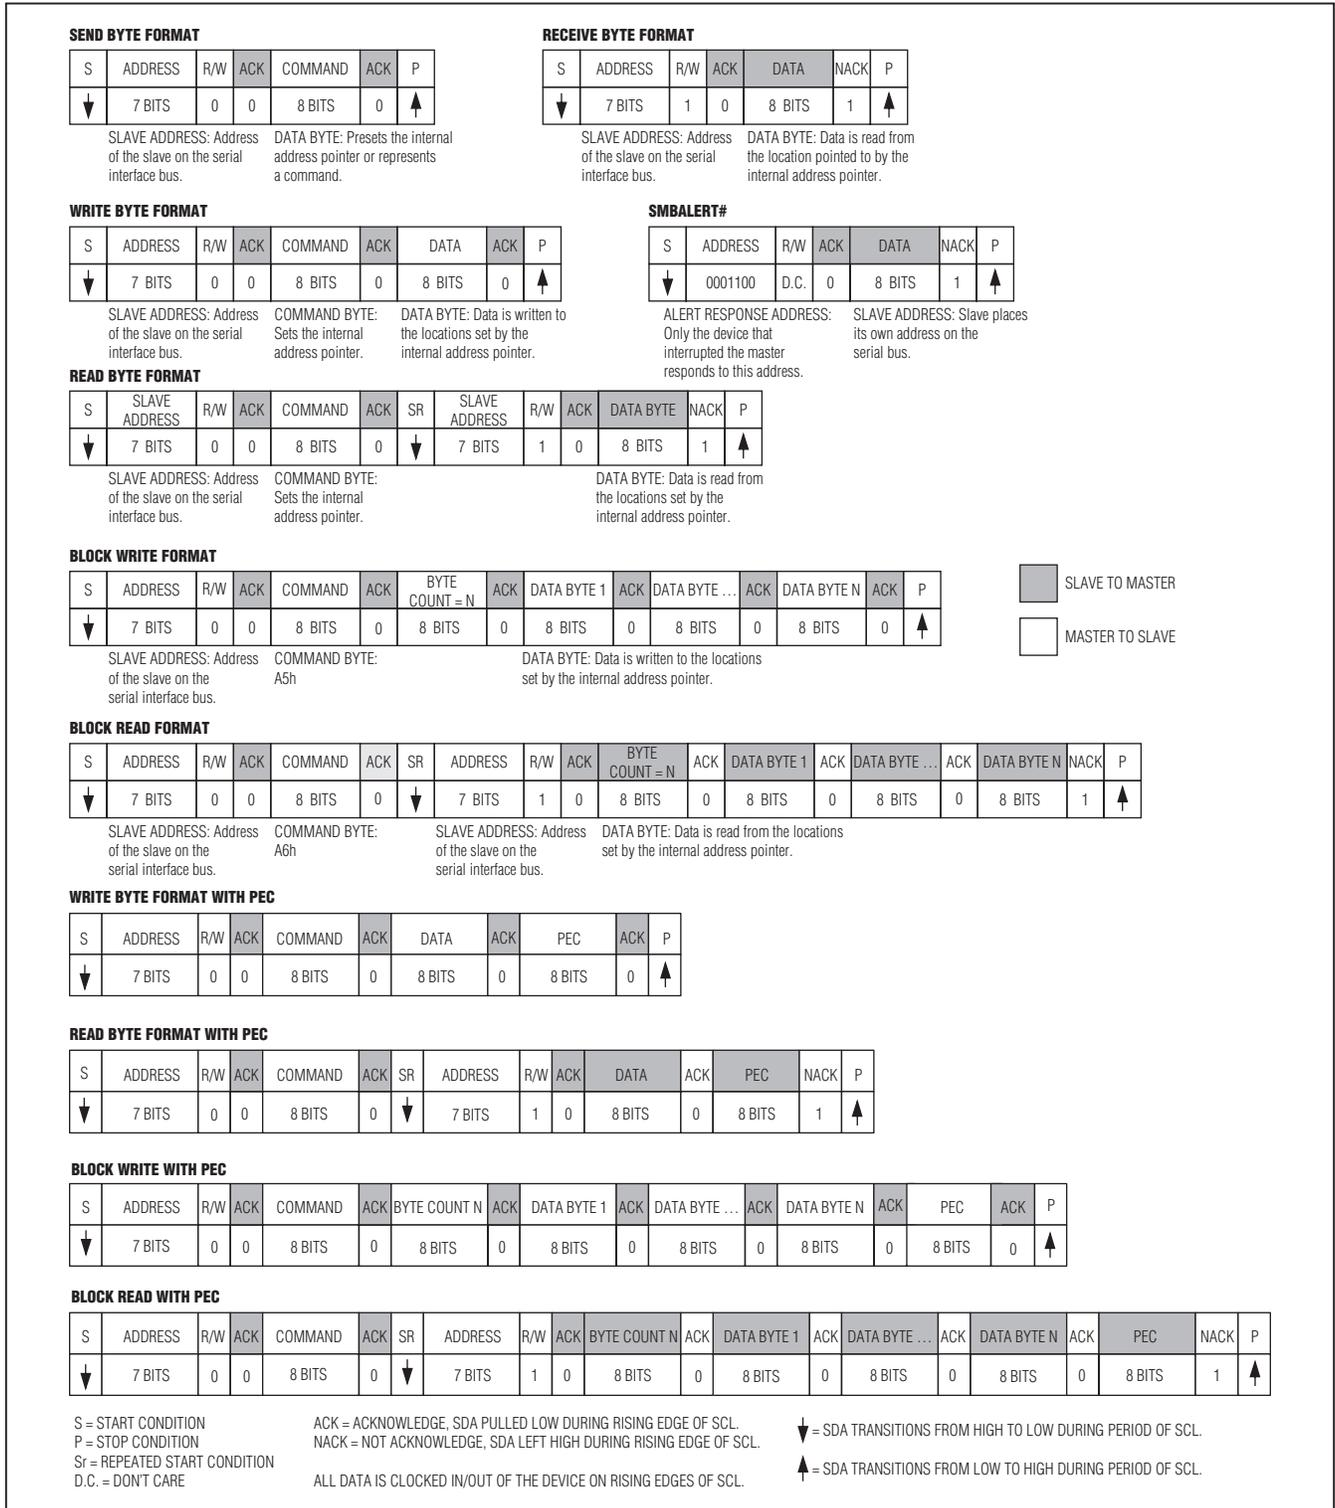

Figure 9. SMBus Protocols
The send byte protocol allows the master device to send one byte of data to the slave device (see Figure 9). The send byte presets a register pointer address for a subsequent read or write. The slave sends a NACK instead of an ACK if the master tries to send a memory address or command code that is not allowed. If the master sends A5h or A6h, the data is ACK, because this could be the start of the write block or read block. If the master sends a STOP condition before the slave asserts an ACK, the internal address pointer does not change. If the master sends A7h, this signifies a software reboot. The send byte procedure is as follows:
The receive byte protocol allows the master device to read the register content of the MAX16068 (see Figure 9). The flash or register address must be preset with a send byte or write word protocol first. Once the read is complete, the internal pointer increases by one. Repeating the receive byte protocol reads the contents of the next address. The receive byte procedure follows:
The write byte protocol (see Figure 9) allows the master device to write a single byte in the default page, extended page, or flash page, depending on which page is currently selected. The write byte procedure is as follows:
The read byte protocol (see Figure 9) allows the master device to read a single byte located in the default page, extended page, or flash page depending on which page is currently selected. The read byte procedure is as follows:
The block write protocol (see Figure 9) allows the master device to write a block of data (1–16 bytes) to memory. Preload the destination address by a previous send byte command; otherwise the block write command begins to write at the current address pointer. After the last byte is written, the address pointer remains preset to the next valid address. If the number of bytes to be written causes the address pointer to exceed 8Fh for configuration registers or configuration flash or FFh for user flash, the address pointer stays at 8Fh or FFh, respectively, overwriting this memory address with the remaining bytes of data. The slave generates a NACK at step 5 if the command code is invalid or if the device is busy, and the address pointer is not altered.
**Block Read** The block read protocol (see Figure 9) allows the master device to read a block of up to 16 bytes from memory. Read fewer than 16 bytes of data by issuing an early STOP condition from the master, or by generating a NACK with the master. The destination address should be preloaded by a previous send byte command; otherwise, the block read command begins to read at the current address pointer. If the number of bytes to be read causes the address pointer to exceed 8Fh for the configuration register or configuration flash or FFh in user flash, the address pointer stays at 8Fh or FFh, respectively.